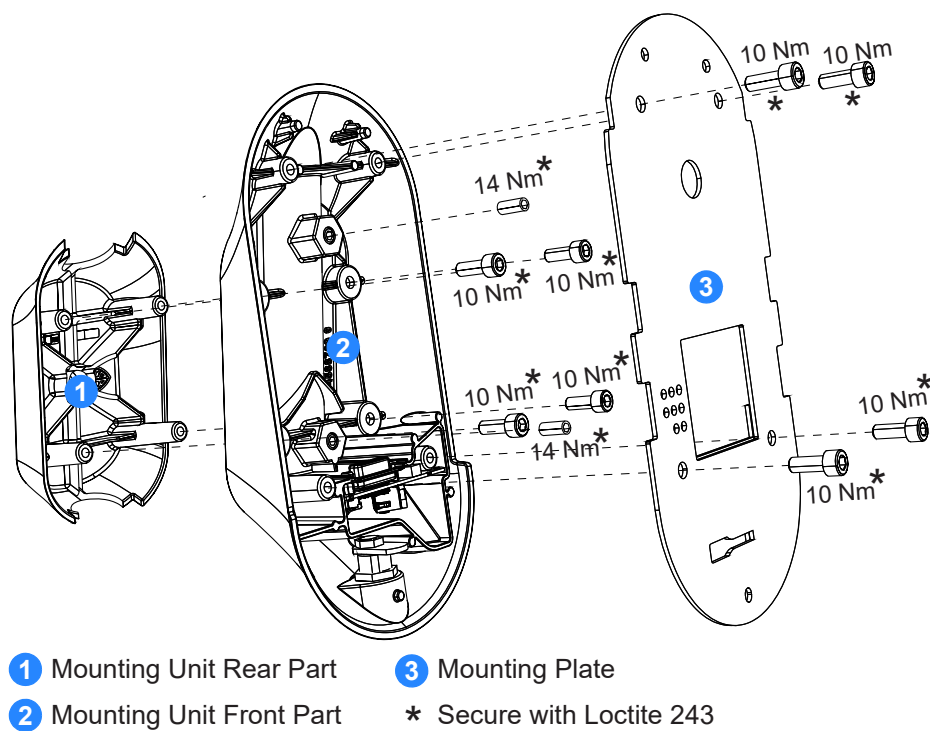

Figure 3-45 Mount the Mounting Unit
- Step 8** Put the rear part of the mounting unit on the front part of the mounting unit around the pole and fix it with four screws (see **Figure 3-45**).
Step 4 Put the mounting plate on the mounting unit front part and fix it with four screws, see **Figure 3-45**.